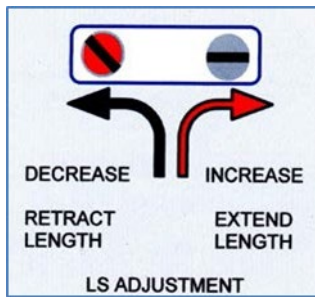

Figure 6 – Extend
2.11 To extend (increase) gate travel towards the open position turn the retract length adjustment screw clockwise. As indicated in red in Figure 6.